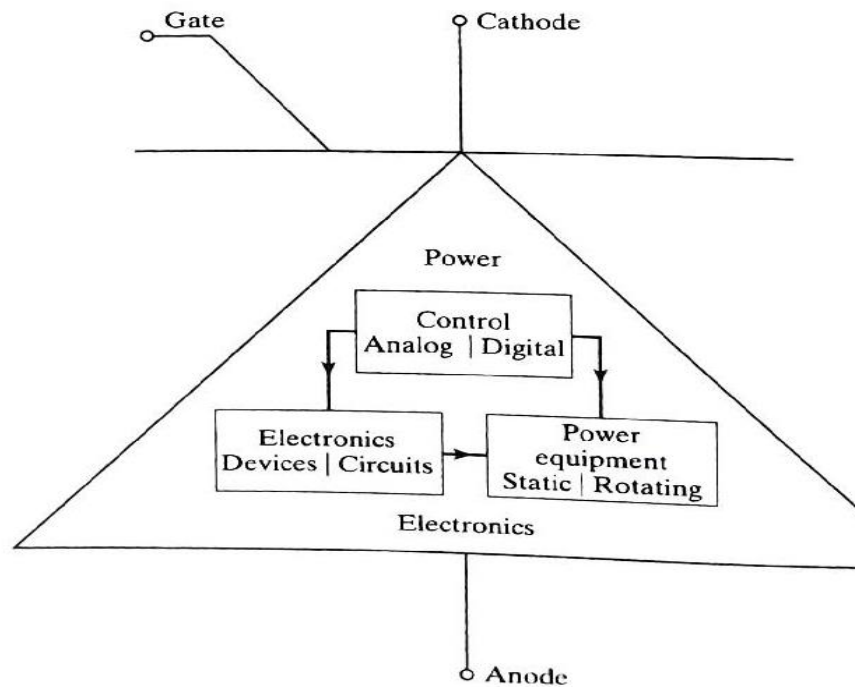

FIGURE 1.1
- e) The interrelationship of power electronics with power, electron control is shown in Figure 1.1.